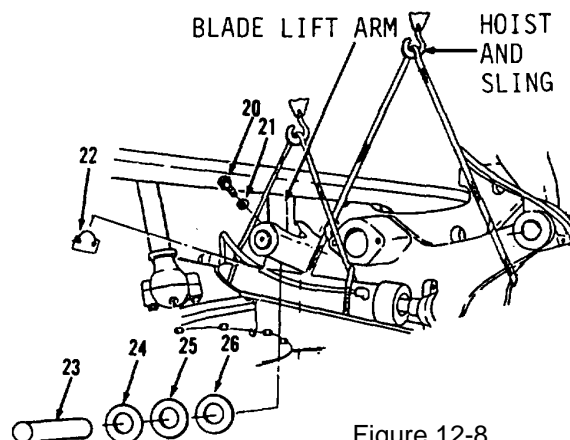
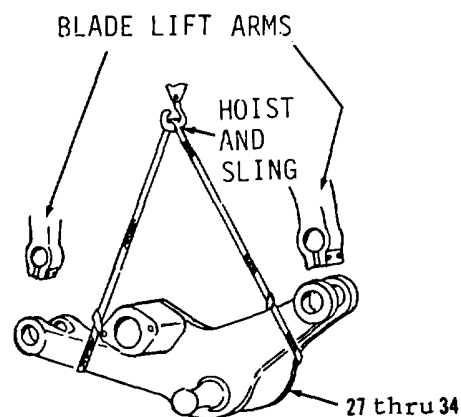

Figure 12-8.
Figure 12-9.
7. Remove two bolts (20), washers (21) and lock (22, Figure 12-8) from right side of blade lift arm.
8. Remove pin (23) and two washers (24, 25 and 26).
9. Remove items 27 thru 34 as an assembly (Figure 12-9).
1. Attach hoist and sling to items 34 thru 27 as an assembly (Figure 12-9).
2. Position items 34 thru 27 as an assembly at blade lift arms.